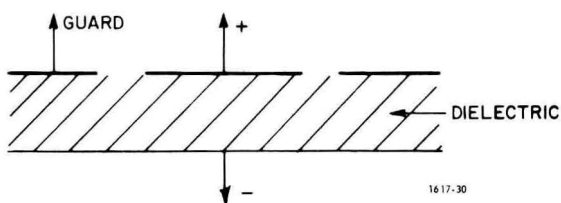

Figure 4-11. Guard-electrode arrangement to measure dielectric samples.
**Three Electrodes Method.** The guard arrangement (Figure 4-11) provides an electrical equivalent to a 3-terminal capacitance, and is measured as such.